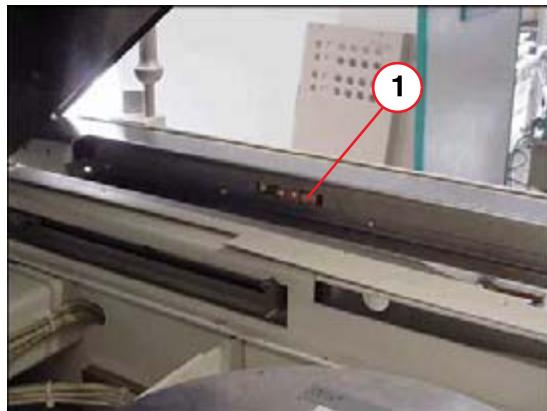

Fig. 6: Tabletop
- Lift the patient tabletop, clean the two wiper contacts and check them for function (grounding) (1/Fig. 6 / p. 23).